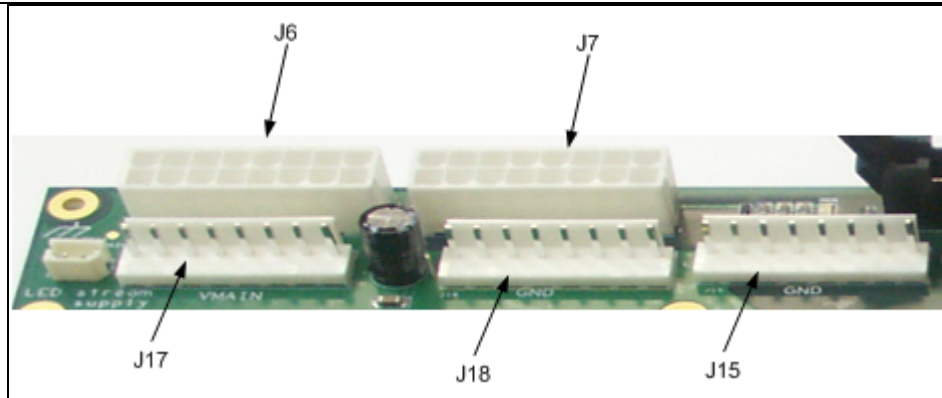

Figure 7: Vin Connectors
3. Vin Connectors (see Figure 7)